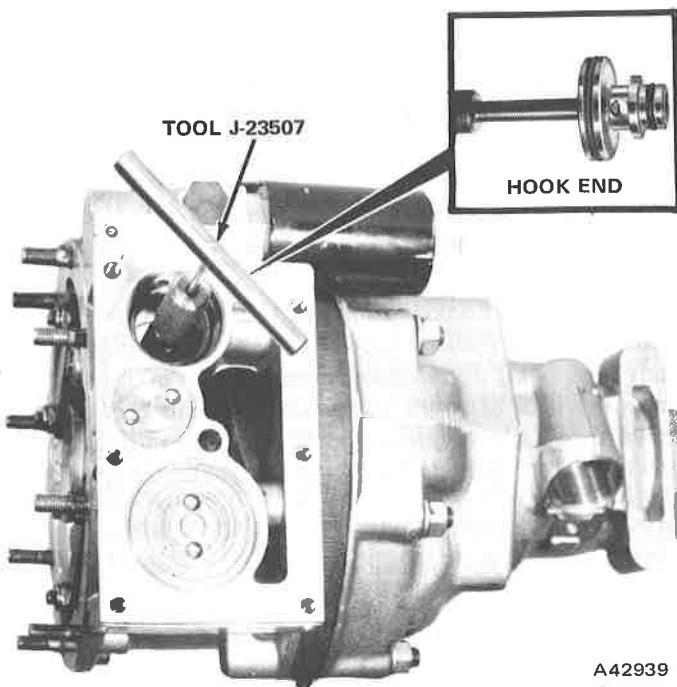

Fig. 6-39 Removing Relief Valve Body and Sleeve
- (5) Insert hooked end of Relief Valve Body Remover Tool J-25307 into side orifice of relief valve body (fig. 6-39). When hooked end of tool is in position in side orifice of relief valve body, slide barrel of tool upward to secure hooked end of tool, and pull straight down on tool to remove valve body and relief valve sleeve.